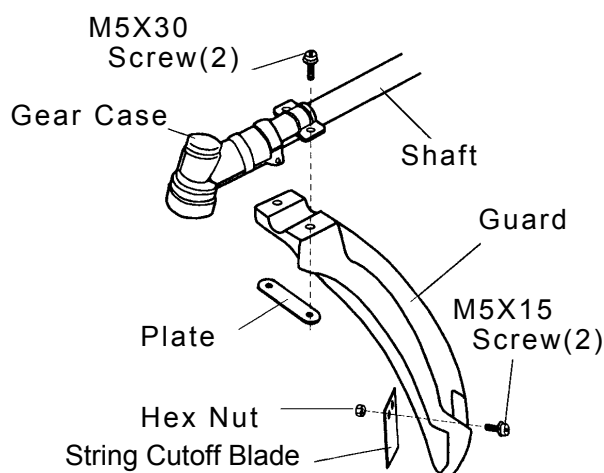

Fig.2
1. Fasten the string cutoff blade to the guard with M5×15 screws as shown on Fig.2.